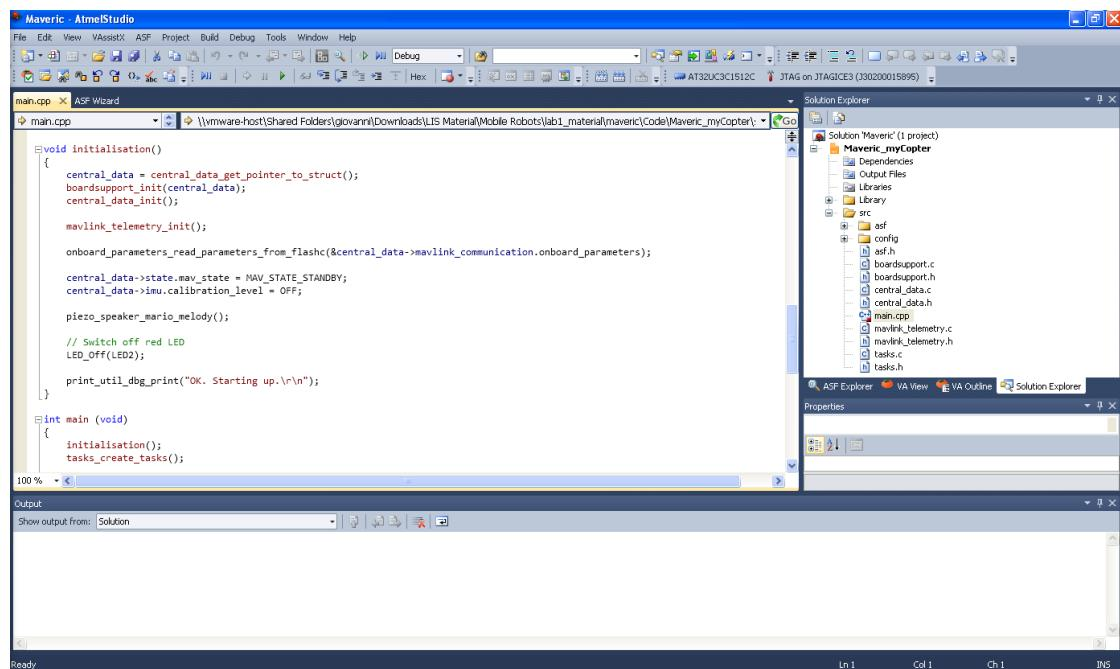

Figure 3: The main view of Atmel Studio
1. Open Atmel Studio. The interface is shown in Fig. 3.